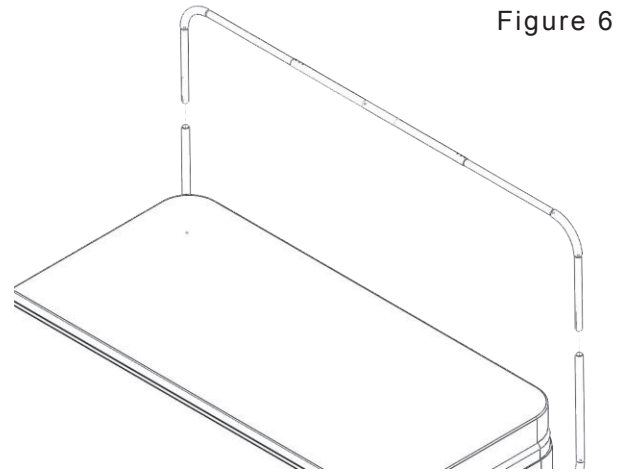

Figure 6
7 Insert the short arms of the **Support Arms (B)** into the **Pivot Arms (A)**. See *Figure 6*.